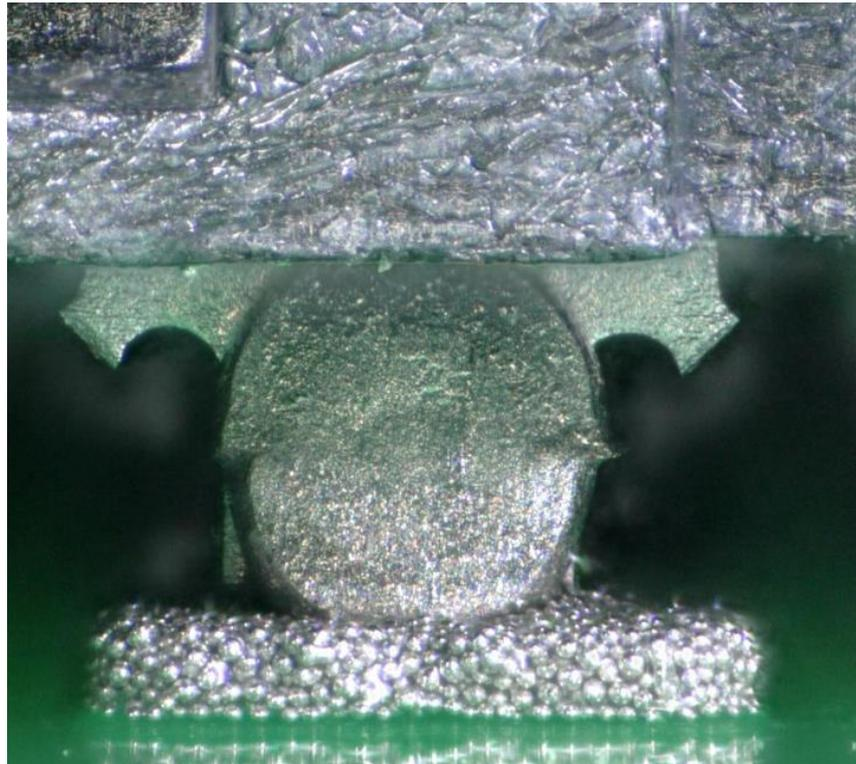

Fig. 2. Solder crimp location relative to solder print. Notice good contact between solder crimp and paste.
- Complete solder pad coverage is critical. The recommended aperture size is intentionally larger than the pad to ensure that the solder crimp comes into contact with the solder paste (see Fig. 2). If this does not occur, proper wetting will not be achieved. Automated inspection of each print is recommended. If solder paste does not completely cover the solder pad the assembly should be rejected, cleaned and re-printed.
- The connector must be fully seated. As previously stated and shown in Fig. 2, it is critical that the solder crimp comes into contact with the solder paste to ensure proper wetting. When using automated pick-and-place equipment, ensure the Z-axis dimension fully seats the solder crimps onto the board surface. Due to nominal variances in solder crimp positioning, i.e. coplanarity, not all crimps will contact the board at the same time. Fig. 3 illustrates a fully seated connector prior to reflow.